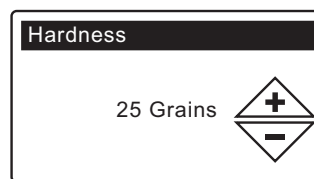

FIG. 16
- 7. HARDNESS** Press the UP (▲) or DOWN (▼) buttons to set the value of your water’s hardness (See Figure 16).